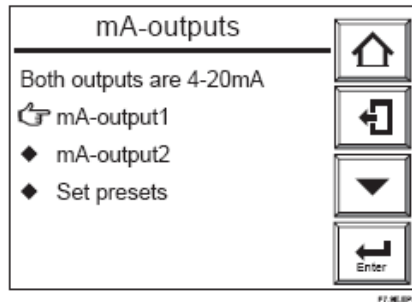

Figure 7.9 Setting "mA-output"
- (1) Select the Setup from the Execution/Setup display.
- (2) From the Commissioning (Setup) display, select "mA-output setup"; the display shown in Figure 7.9 then appears.